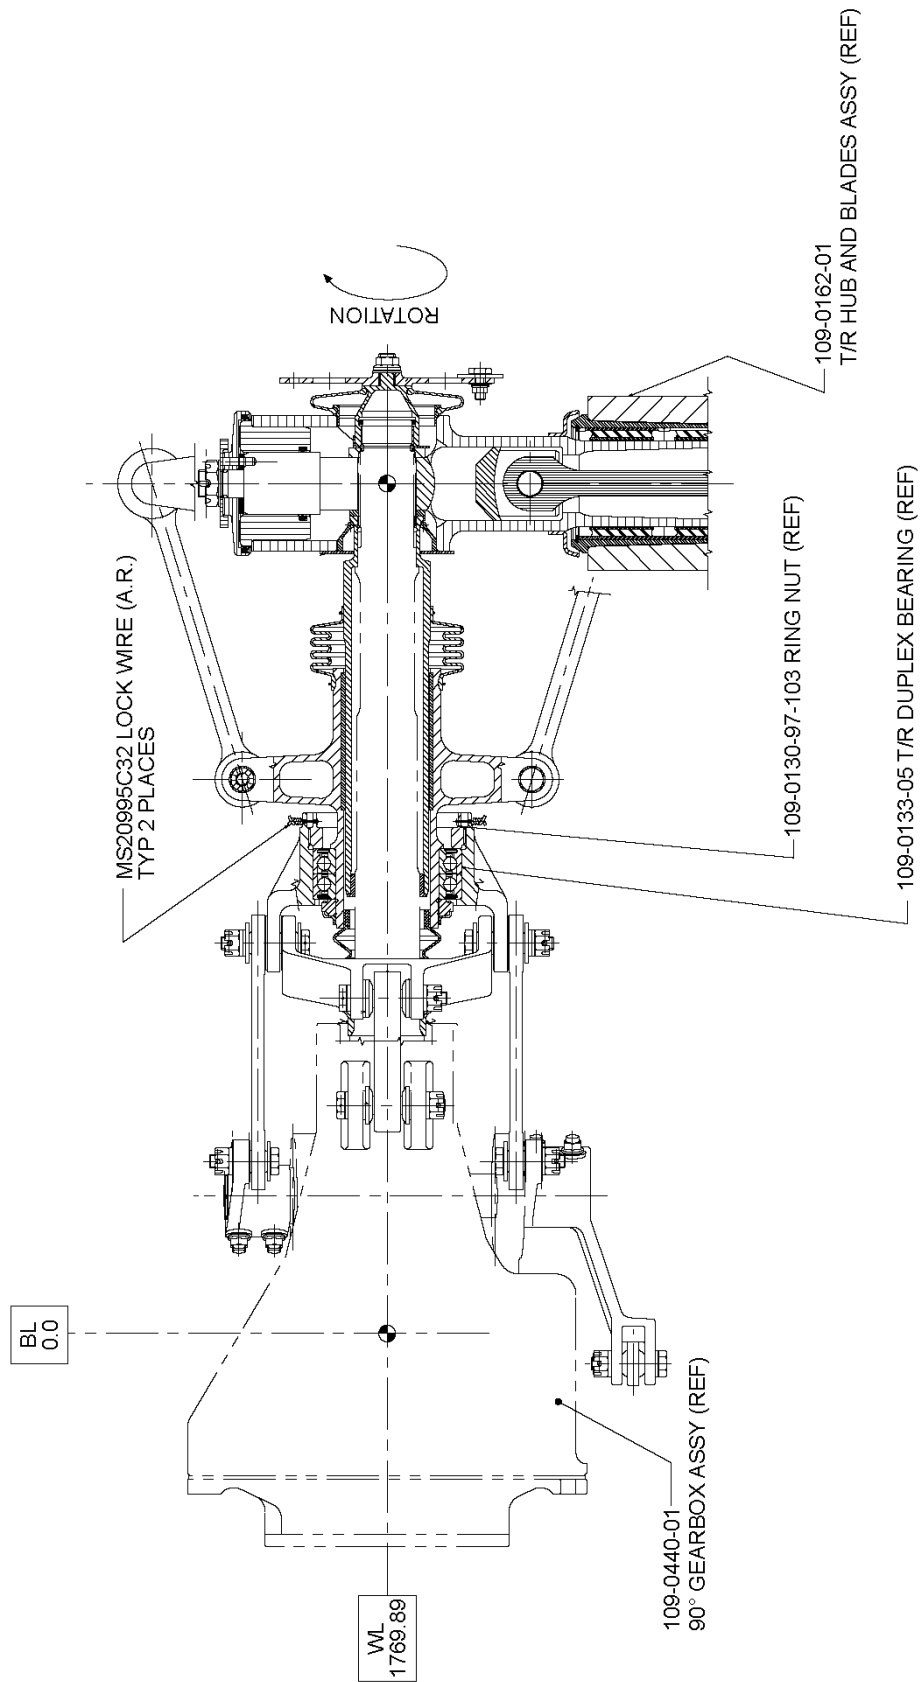

FIGURE 1
2. Gain access to the tail rotor rotating controls P/N 109-0136-01 and visually inspect the two MS20995C32 lockwires, securing the duplex bearing locking nut P/N 109-0130-97-103 to the housing, for presence and condition (ref. figure 1).
(See figure 1)
2. Gain access to the tail rotor rotating controls P/N 109-0136-01 and visually inspect the two MS20995C32 lockwires, securing the duplex bearing locking nut P/N 109-0130-97-103 to the housing, for presence and conditions (ref. figure 1).